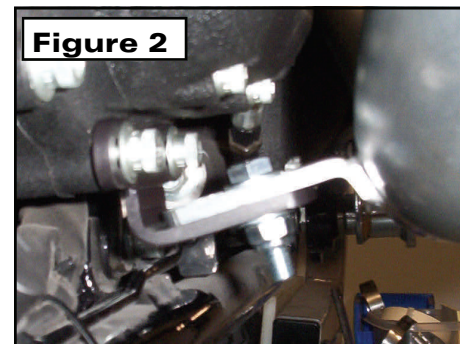
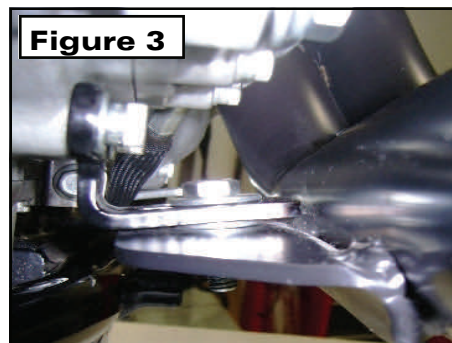

Figure 2
Figure 3
4. Install the head pipe using the stock flange nuts. For **Softails**, align the bracket on the pipe above the transmission mount bracket **(See Figure 2)**. For **Dyna** models, align the bracket on the pipe under the transmission bracket and slide a 5/16" washer (supplied) between the gap in brackets **(See Figure 3)**. Install the 5/16" bolt and flat washer through the slot from the top, through both brackets. Install a flat washer and lock nut on the bolt. **DO NOT TIGHTEN.**